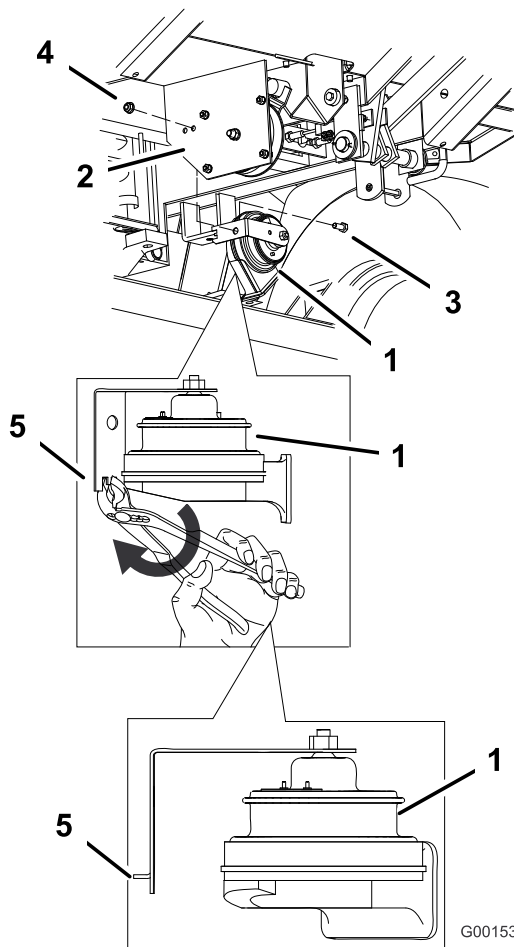

Figure 4
1. Bend the middle tab at the end of the bracket to a 90 degree angle (Figure 4).
2. Install the bent tab into the back hole that was previously drilled. Secure the horn to the clutch plate using a bolt (5/16 x 3/4 inch) and a flange nut (5/16 inch) (Figure 4).